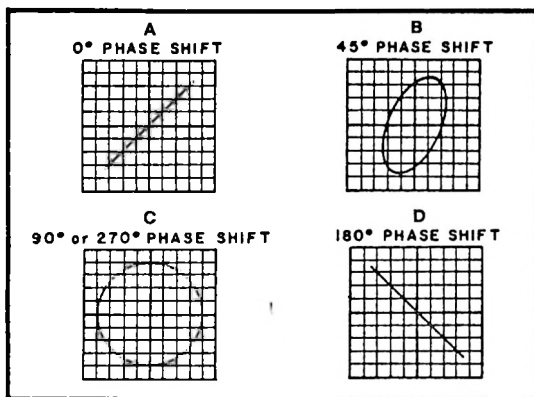

Figure 3-17
- g. Connect the horizontal input to the left channel output. Run the tape to the 1 kHz section. A pattern such as Figure 3-17 (a) should now appear. If not, reverse the two leads of the horizontal input. This pattern represents the "0" or near "0" phase shift pattern of the system.
- h. Allow the tape to run to the 4 kHz section and observe if phase shift has occurred. Refer to Figures 3-17 (a) through (d). If phase shift has occurred, adjust the play head azimuth screw to correct this phase shift in the exact reverse rotation to which it has occurred. This means that if the pattern was increased clockwise from 0 shift as frequency increased, the azimuth screw should be turned in such a way to cause the scope display to rotate counterclockwise back to the "0" position.